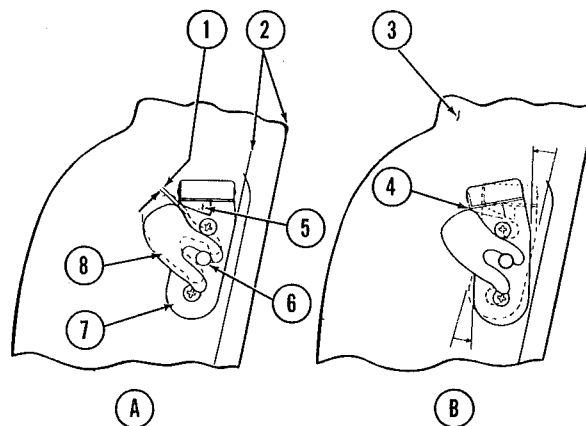

FIG. 178—LOCK TOGGLE AND STRIKER PLATE POSITION
To prevent the door opening in the safety latched position, the door striker wedge (5, Fig. 178) must be properly positioned in relation to the cam surface (A) of the lock toggle (8). Improper safety latched position will permit the toggle to override the striker pin (6), causing the door to open.